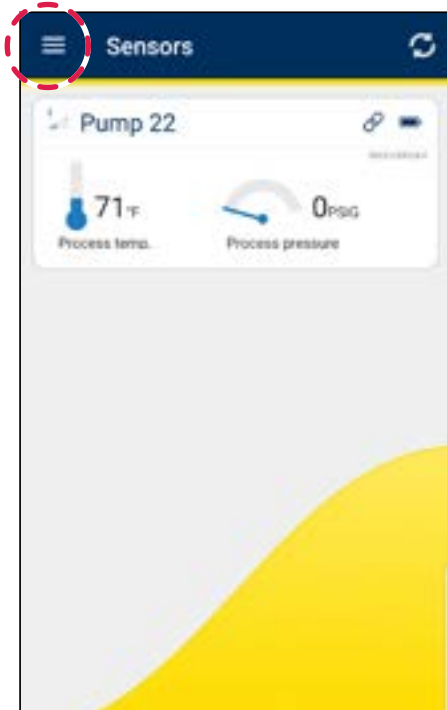

Figure 29
1. Select the **Menu Icon** (see figure 29).